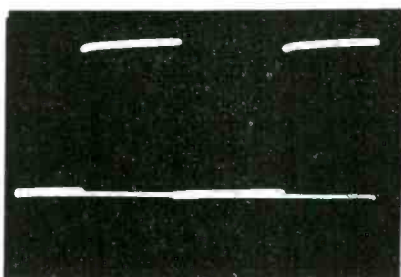
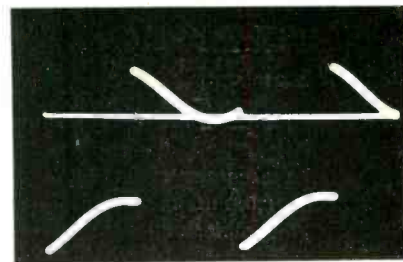

Fig. 4—60 cycle square wave without curvature.
Fig. 5—60 cycle square wave with curvature present.
**A.** Fig. 4 shows a 60-cycle square wave without curvature, and Fig. 5 shows a 60-cycle square wave with curvature present. This curvature is not caused by frequency distortion, but by hum distortion. In other